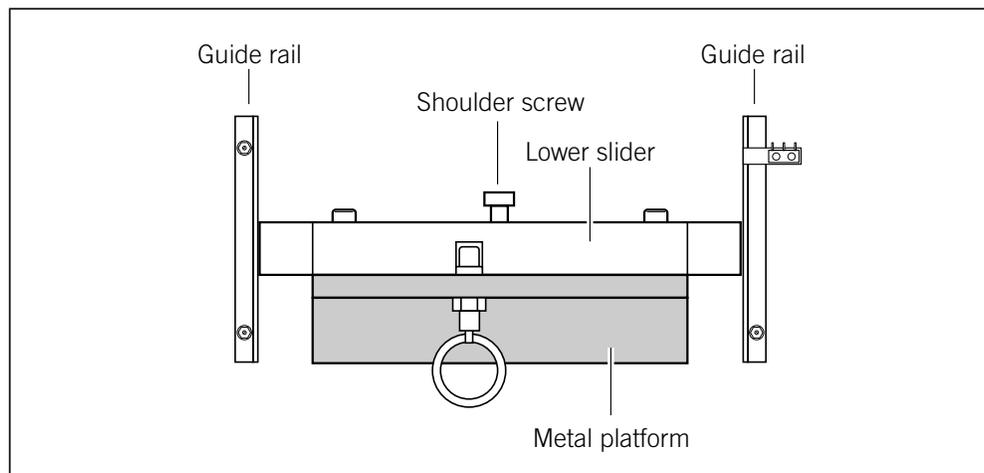

Figure 18-3. The support platform for the lower cathode slider. The platform has two shoulder screws that fit into the section to align and secure the platform.
2. Place the slider between the guide rails and metal platform (figure 18-3) and slide it in until the three wide slots (screw holes) in the two long slits in the slider align with the corresponding two shoulder screws in the metal platform.